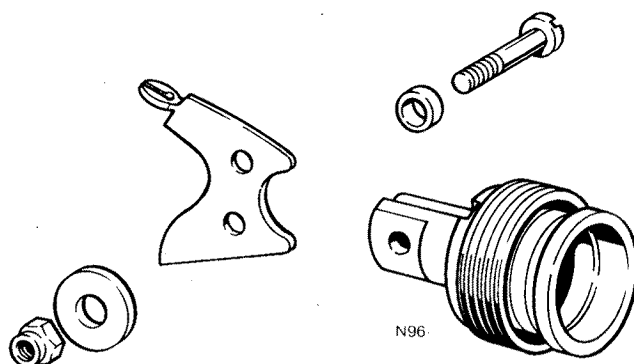

Fig. D7 Order of assembly of clutch withdrawal lever
- 11 Assemble the withdrawal lever, roller, bush and pivot screw and secure the lock nut. Assembly should be in accordance with Fig. D7.